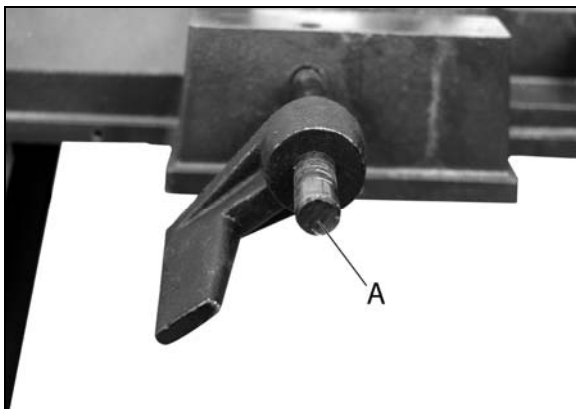

Figure 15
2. The stop can slide in or out by loosening the set screw (B) and moving the stop.
3. When not using the stock stop simply swing the stop out of the way below the table surface. (figure 15)